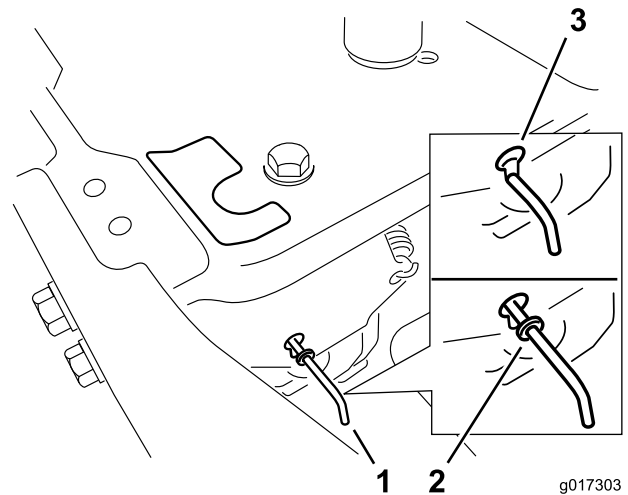

Figure 24
4. Move the bypass levers forward through the key hole and down to lock them in place as shown in Figure 24. Ensure this is done for each lever.
Move the bypass levers inward and push them back in the horizontal slot (Figure 24) to engage the wheel motors.